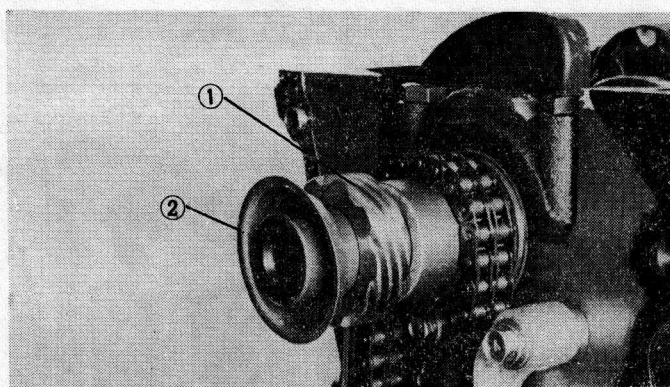

Fig. 109 Installing the Crankshaft Gear
(14) Install the key and then install the crankshaft gear (1) and the oil slinger (2). (Fig. 109)